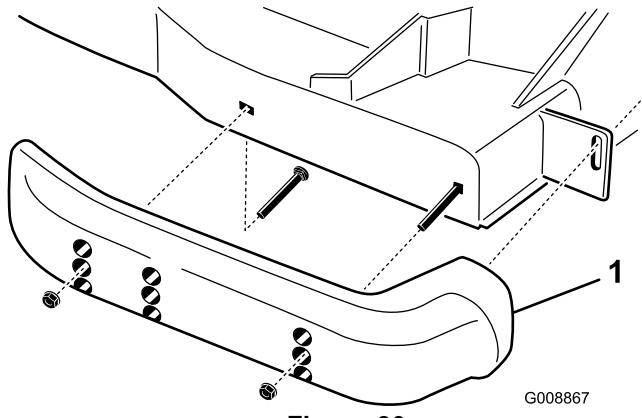

Figure 30
1. Loosen the screw at the front of each skid (Figure 30).
2. Remove the flange-head bolts and nuts from each skid (Figure 30).